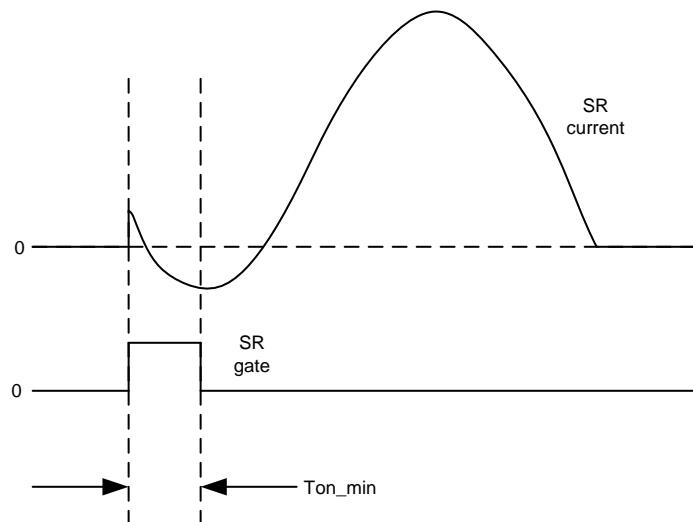

图 20. SR current with leading edge spike
- Short SR conduction time. At light load, the SR current could start with a short leading edge spike of positive current, followed by the negative current, and then the full positive current, as shown in 图 20. This is caused by the SR parasitic capacitance and the LLC resonant behavior. When the negative current appears, the SR is turned off with minimum on time (on-time blanking). This is the indication that the leading edge current spike causes abnormal operation. Once the short SR conduction time is detected, the IC sets the turn-on delay to 275 ns. This long turn-on delay can further help to reject the leading edge current spike. It also helps to provide better DCM ring rejection during burst mode operation, since the burst mode operation only happens at light load. This increased turn-on delay time is reset when the SR voltage drop is more than 40 mV (V_{DS} more negative than -40 mV) at the middle of its conduction time for 8 consecutive cycles.